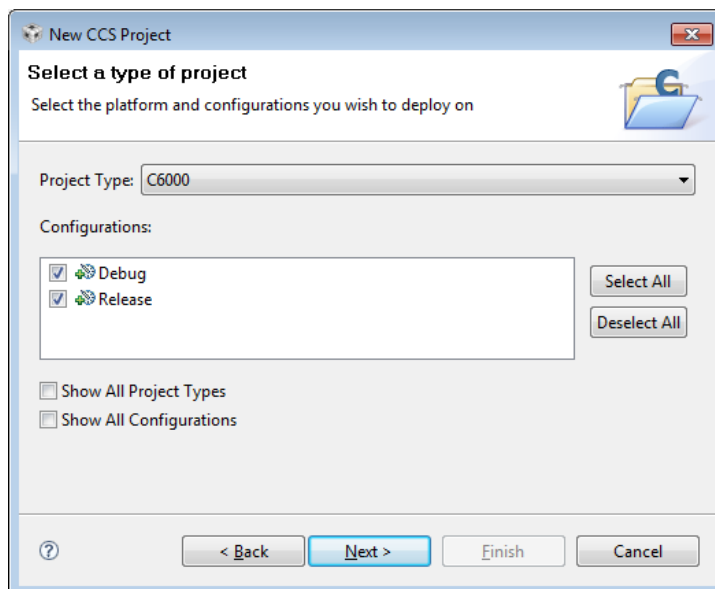

Figure 2: Setting up a new project
- Select **C6000** for the **Project Type** (see figure 2)